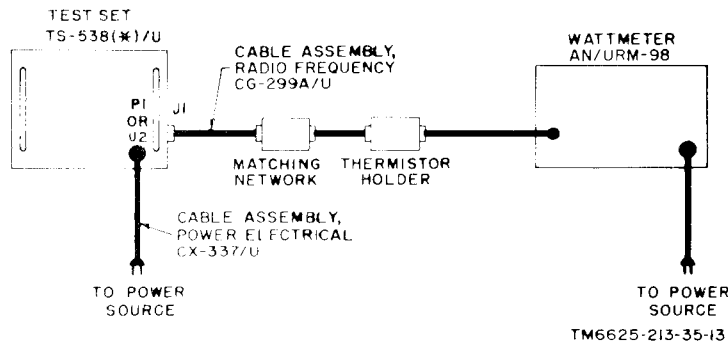

Figure 24. Test Set TS-538(\*)/U, OUTPUT POWER calibration, connection diagram.
(fig. 24)
a. Connect the test set to Wattmeter AN/URM-98 (fig. 24). Use a matching network such as a triple stub tuner or poly-block match. Keep the standing wave ratio low by connecting all cables properly.